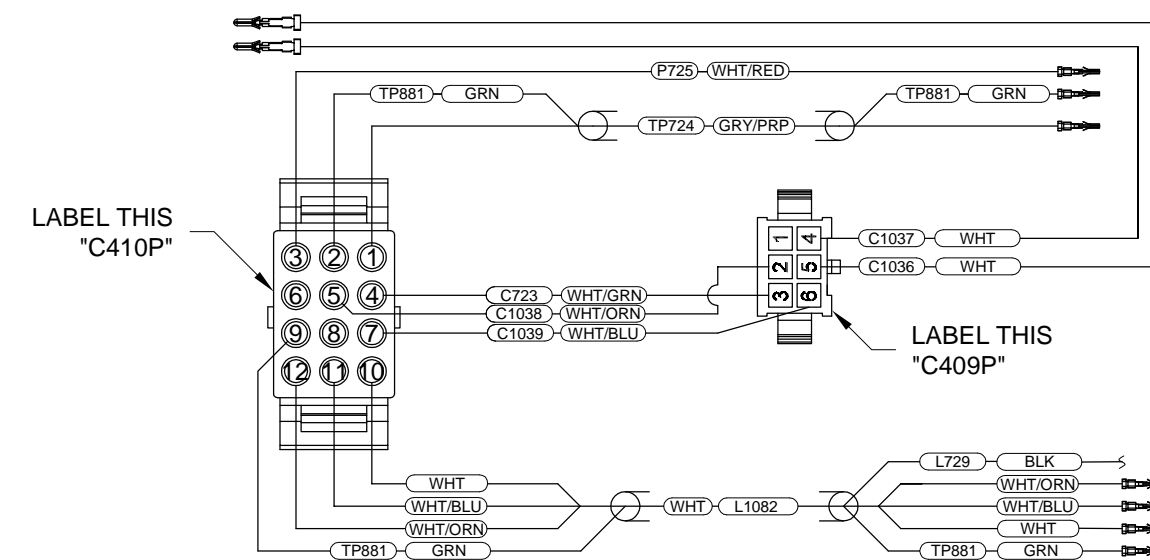

FIGURE 2: WH-00057 AFT FUSELAGE HARNESS
Step 1: Label the Molex Connectors in the WH-00057 Aft Fuselage Harness as shown in Figure 2.